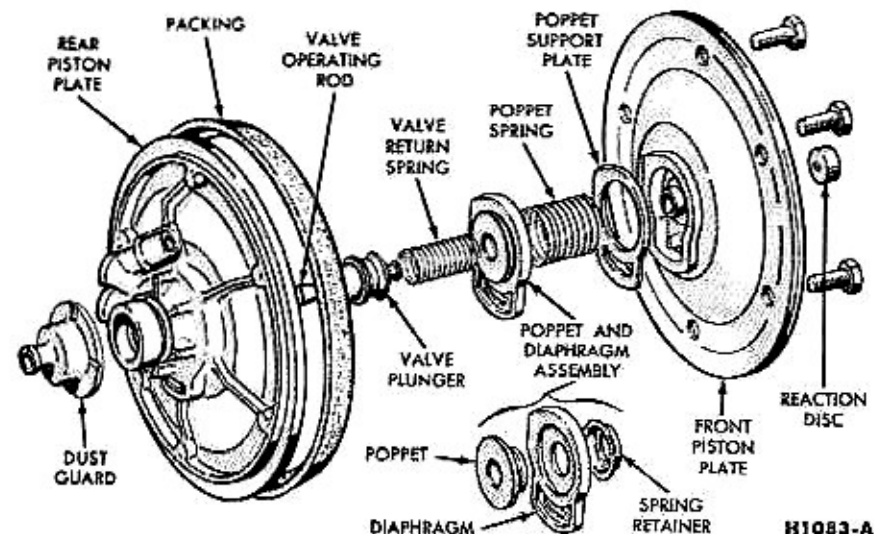

FIG. 8—Disassembled Piston and Valve
1. Remove the rubber dust guard from the push rod and the rear piston plate (Fig. 8). Then remove the six cap screws from the front piston plate, lift off the rear piston plate, the leather piston packing, and remove the push rod with the valve plunger from the rear piston plate.
3. Assemble the poppet diaphragm over the end of the poppet (Fig. 8). Make certain that the diaphragm is in the recess of the poppet.